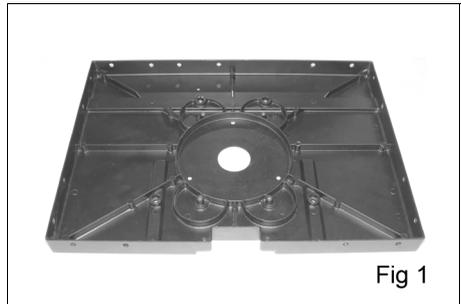

Fig 1
1. Lay the main table top (item 1) upside down on a flat surface as in Fig. 1.